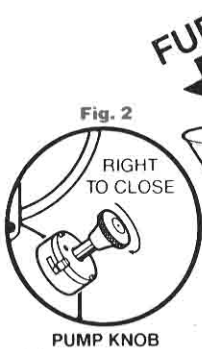

Fig. 2
2. Close PUMP KNOB firmly. Turn in direction of arrow. (Fig. 2)